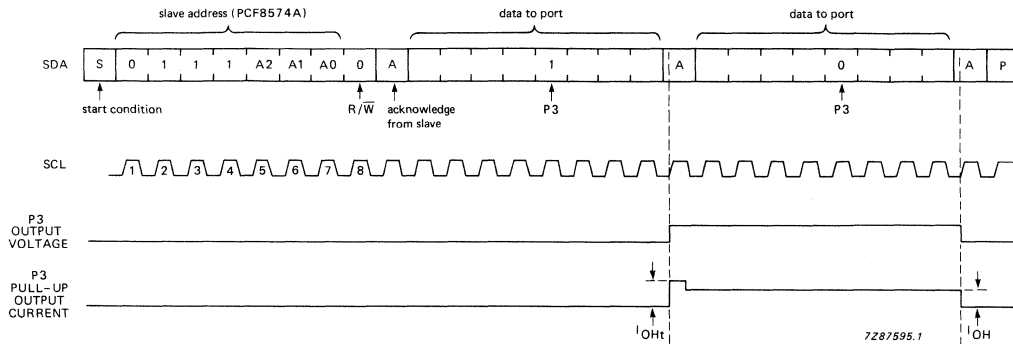

Fig. 15 Transient pull-up current  $I_{OHt}$  while P3 changes from LOW-to-HIGH and back to LOW.
**FUNCTIONAL DESCRIPTION** (continued)**Quasi-bidirectional I/O ports** (see Fig. 15)